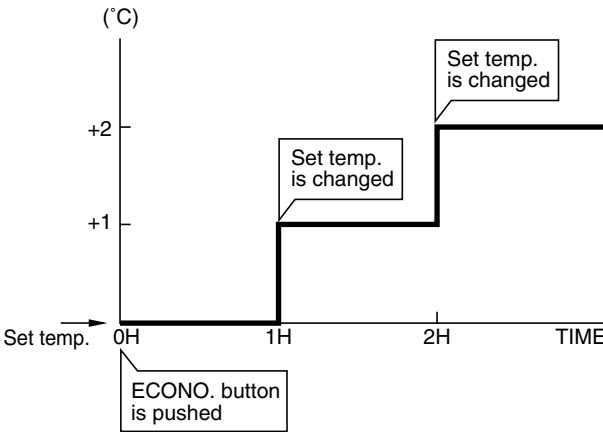

Fig. 7-6-1
- (1) In the ECONO. mode, the set temp. by the remote control is changed automatically as shown in Fig. 7-6-1.
- (2) Fan speed → LOW